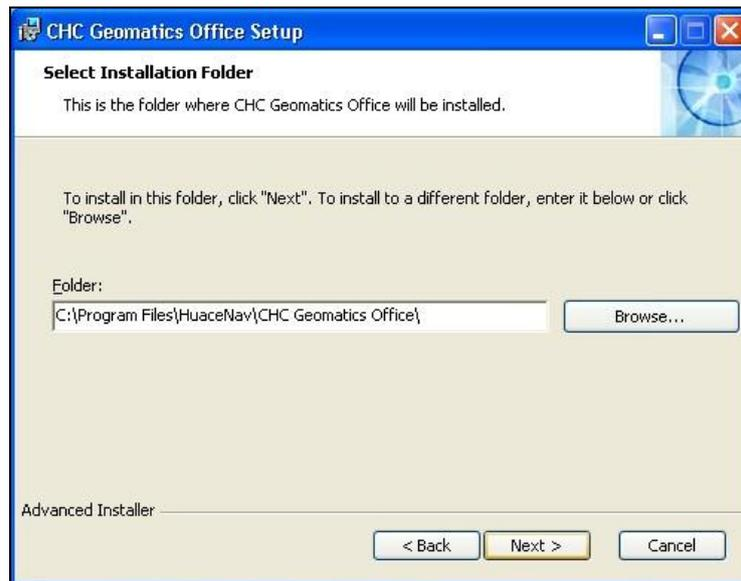

Figure 10-2 Choose Path to install
- Click **NEXT** button to continue, the Figure10-2 dialog will show up.